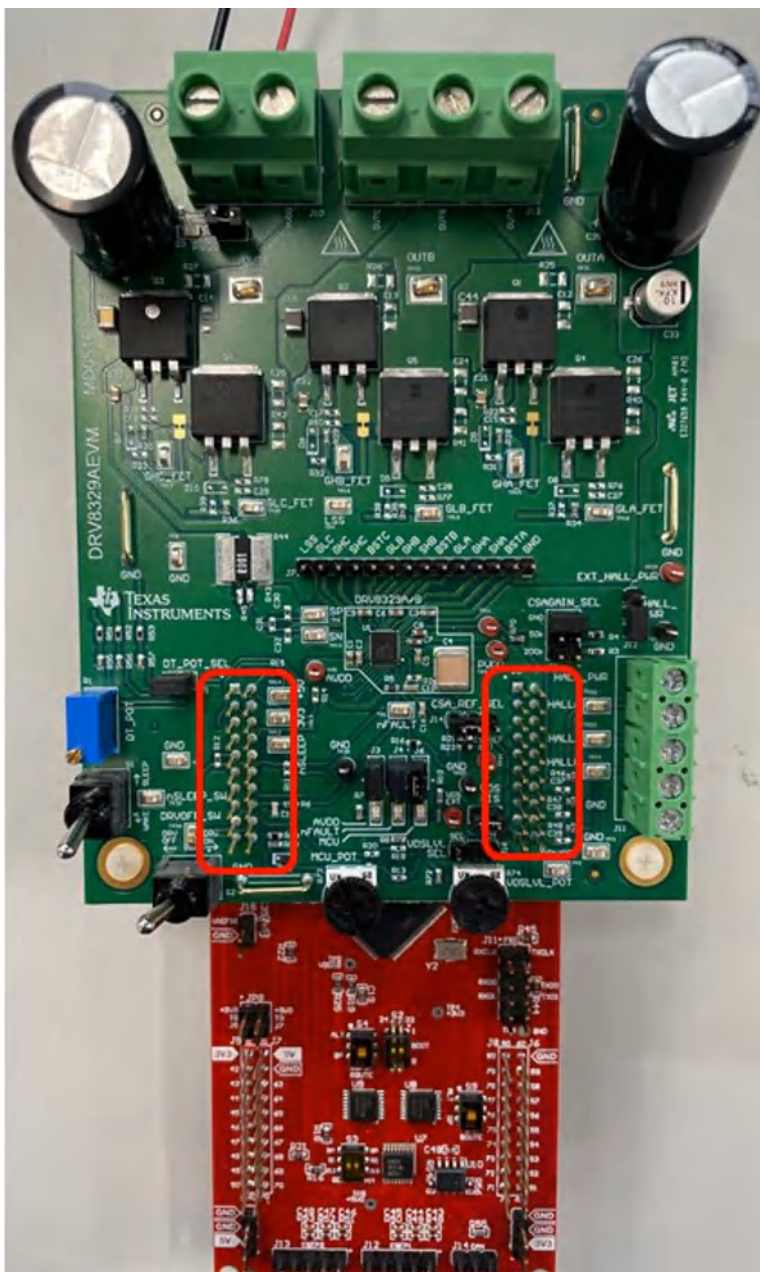
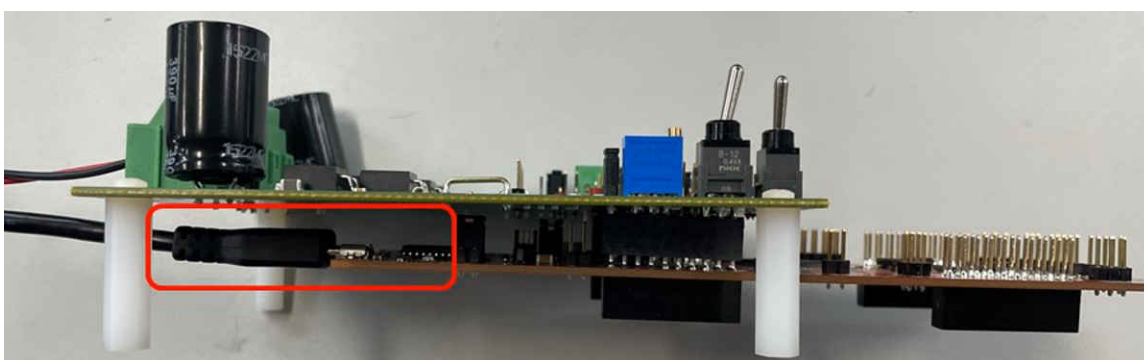

Figure 4-3. DRV8329AEVM on headers J1/J3 and J2/J4 of LaunchPad
Figure 4-4. Micro-USB plugged into LaunchPad
3. Mate the DRV8329AEVM onto the top half of the LAUNCHXL-F280049C (LaunchPad Headers J1/J3 and J2/J4) as shown in Figure 4-3. The motor and power connectors should face the same direction as the Micro-USB connector on the LaunchPad.
6. Connect a Micro-USB cable from the computer into the Micro USB connector on the top of the LAUNCHXL-F280049C as shown in Figure 4-4.
Figure 4-3 and Figure 4-4 shows where the Micro-USB cable is plugged in to the LAUNCHXL-F280049C to provide communication between the LaunchPad firmware and GUI as well as the correct installment of the DRV8329AEVM to the J1/J3 and J2/J4 headers of the LaunchPad.